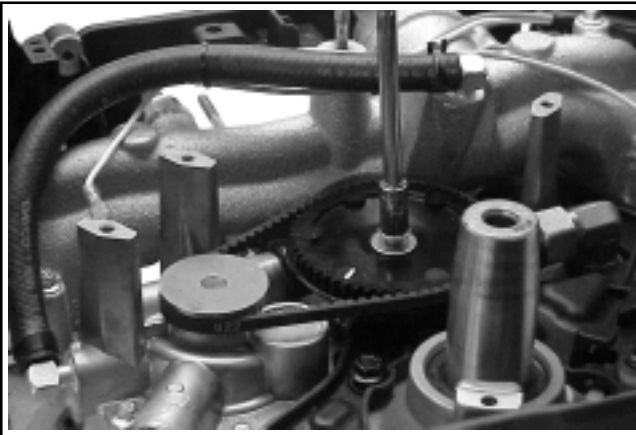

Figure 9-41. Removing Cam Pulley Mounting Hardware.
1. Remove the hex. flange screw and flat washer, securing the cogged drive pulley to the camshaft. See Figure 9-41.